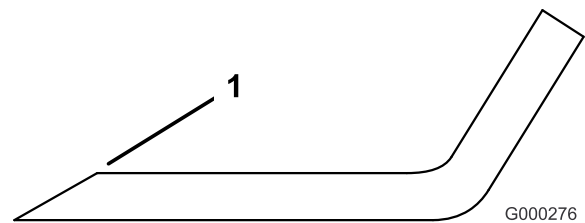

Figure 60
1. Use a file to sharpen the cutting edge at both ends of the blade (Figure 60). Maintain the original angle. The blade retains its balance if the same amount of material is removed from both cutting edges.